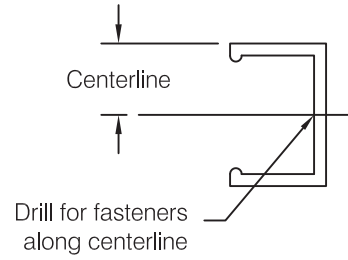

fig 2
Step 3: Pre-drill clearance holes in aluminum retainer along the centerline of the retainer using a #15 (.180”) bit for #8 fastener or a #7 (.201”) bit for #10 and 3/16” fasteners, see **fig 2**. Space holes at 32” on center. Adjust spacing to accommodate studs as necessary. Do not pre-drill at locations that will interfere with installation of molded accessories.